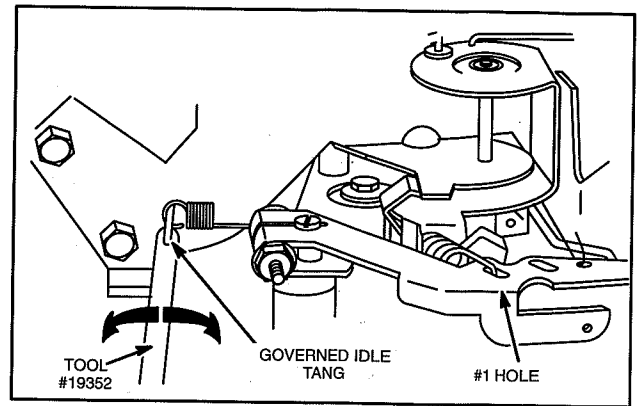

Fig. 29 – Adjusting Governed Idle
2. Bend governed idle tang to obtain RPM shown, Fig. 29: